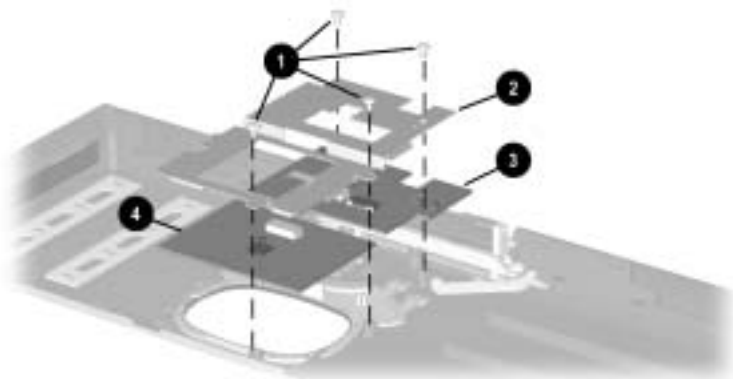

Figure 5-34. Removing the TouchPad Components
7. Remove the four TM2.5 × 5.0 screws ❶ that secure the TouchPad, TouchButton board, and TouchPad bracket to the palm rest (Figure 5-34).
8. Remove the TouchPad bracket ❷, TouchButton board ❸, and TouchPad ❹ from the palm rest.